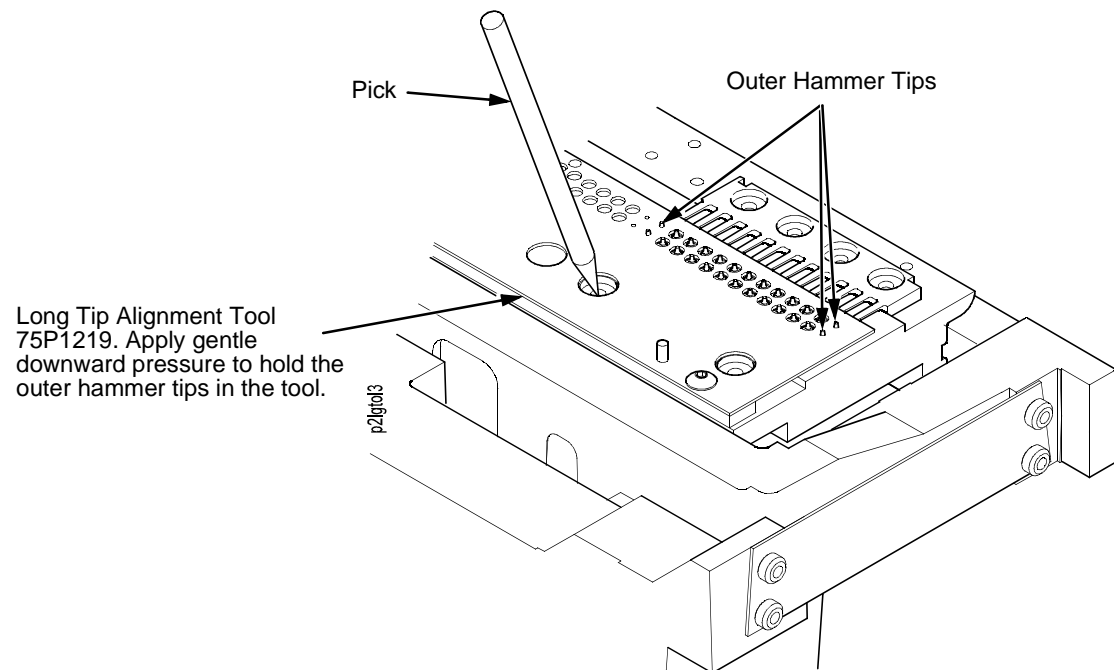

Figure 24. This figure shows how to use the pick to maneuver the hammer tips into the holes in the long tip alignment tool.
6. Apply a slight, continuous downward pressure to the alignment tool and gently swivel the alignment pick in the hammer spring mounting holes to maneuver the hammer tips into the tiny holes in the alignment tool. You will feel/hear a small “click” when the hammer tips slip into the holes. Use the pick to set the outer hammer tips of both facing assemblies. (See Figure 24.)